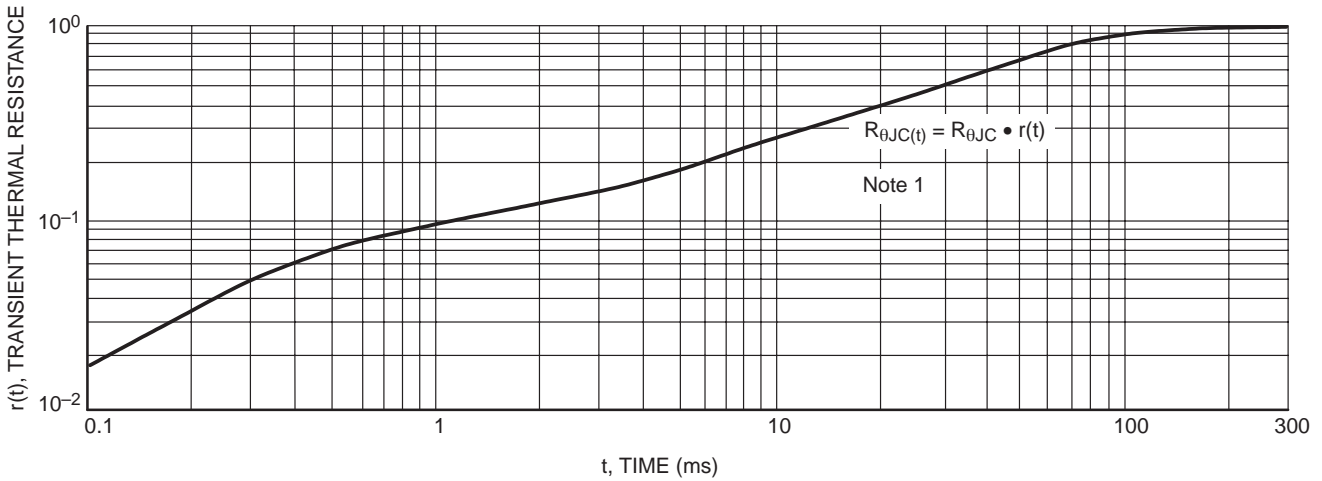

Figure 6. Thermal Response
- $r(t)$  = normalized value of transient thermal resistance at time,  $t$ , from Figure 6, i.e.: